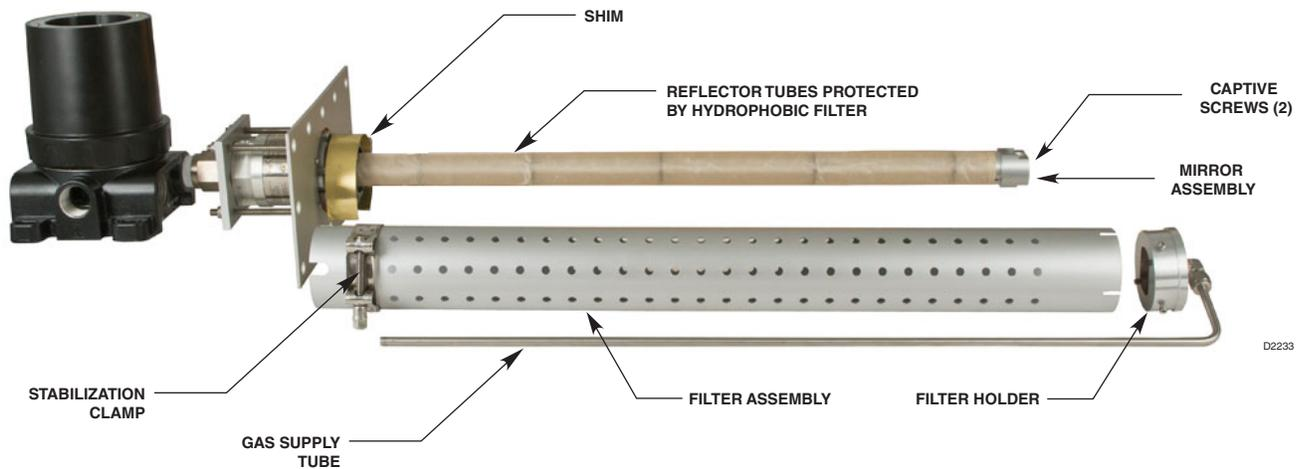
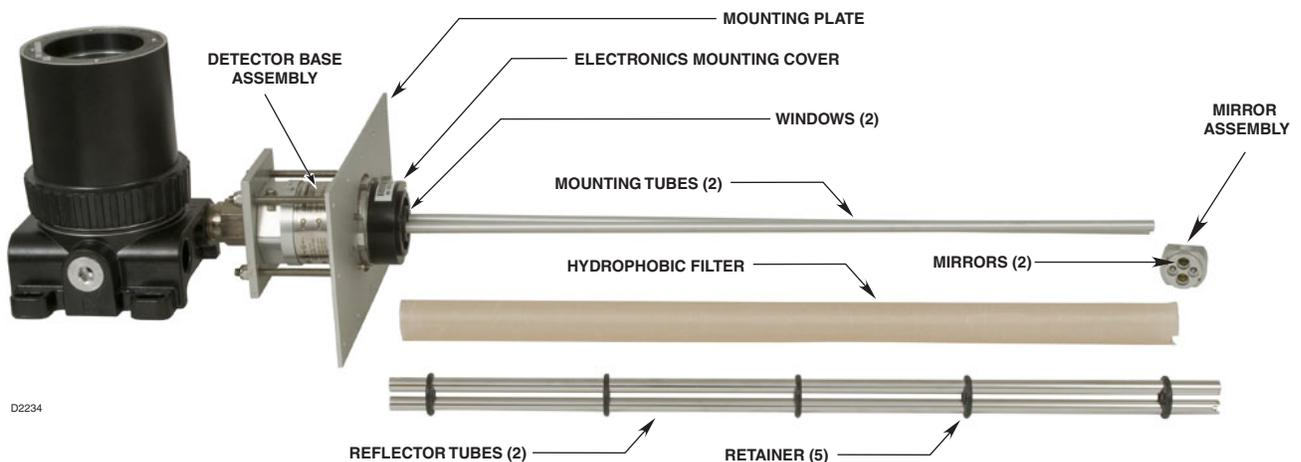

Figure 14—PIRDUCT with Filter Assembly Removed
Figure 15—PIRDUCT Disassembled for Cleaning
1. Slightly loosen the stabilization clamp to release the filter assembly and the shim from the electronics mounting cover. Do not remove the clamp completely from the electronics mounting cover. Keep the shim close by for re-assembly (see Figure 14).
2. Loosen the two captive screws on the end of the filter holder, then remove the filter assembly as shown in Figure 14.
3. Loosen the two captive screws on the mirror assembly (Figure 14) and remove the mirror assembly from the reflector tubes. See Figure 15.
4. Remove the hydrophobic filter and reflector tubes from the mounting tubes as shown in Figure 15. Do not remove the electronics mounting cover.
10. Tighten the two captive screws on the mirror assembly. See Figure 14. Tighten the screws evenly. Do not over-tighten (apply 1 N-m minimum torque).